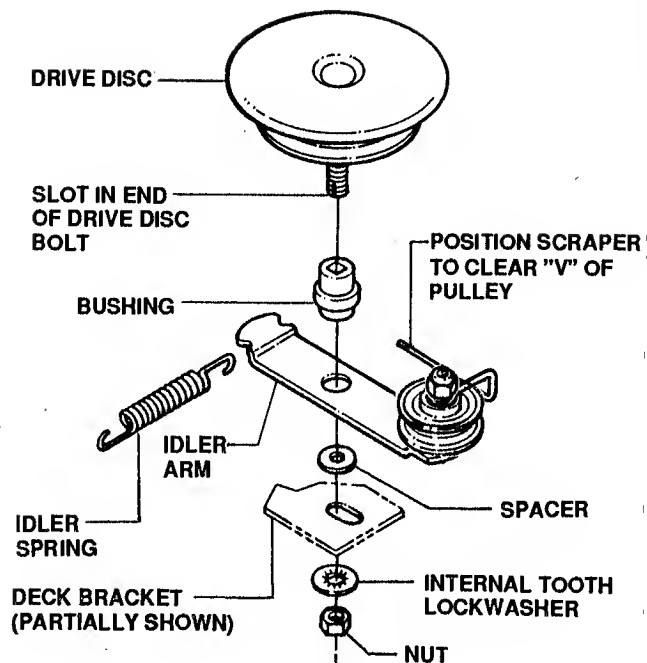

FIGURE 3.20
2. Unhook the idler spring from the right rear wheel bracket. See Figures 3.20, 3.21 & 3.22.
5. Hold the slotted end of the drive disc bolt with a screwdriver and remove the nut and internal tooth lockwasher. Refer to Figure 3.20.
9. Reinstall drive disc and other components as shown in Figure 3.20.